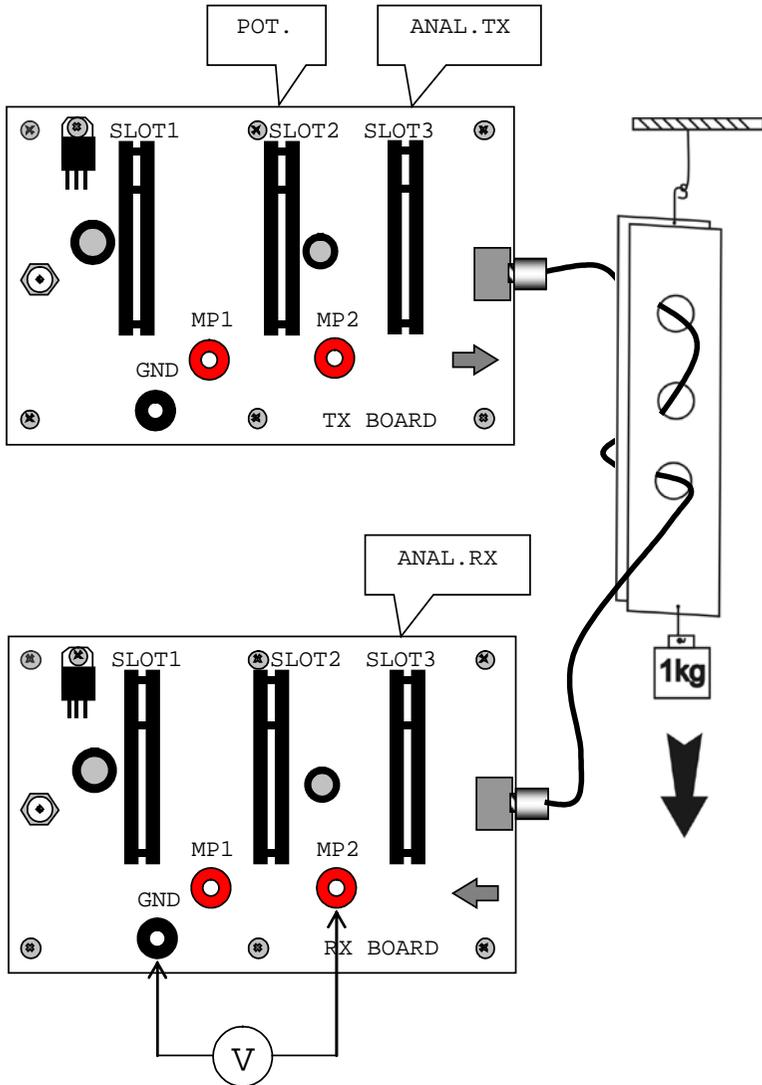

Figure 8 : The set-up diagram of the dynamometer experiment
1. Insert the analogue transmitter into Slot 3 and the potentiometer into Slot 2 of the main transmitter panel, following the order as given in Figure 8.
3. Tow the optical fibre thorough the force plate holes as shown in Figure 8.